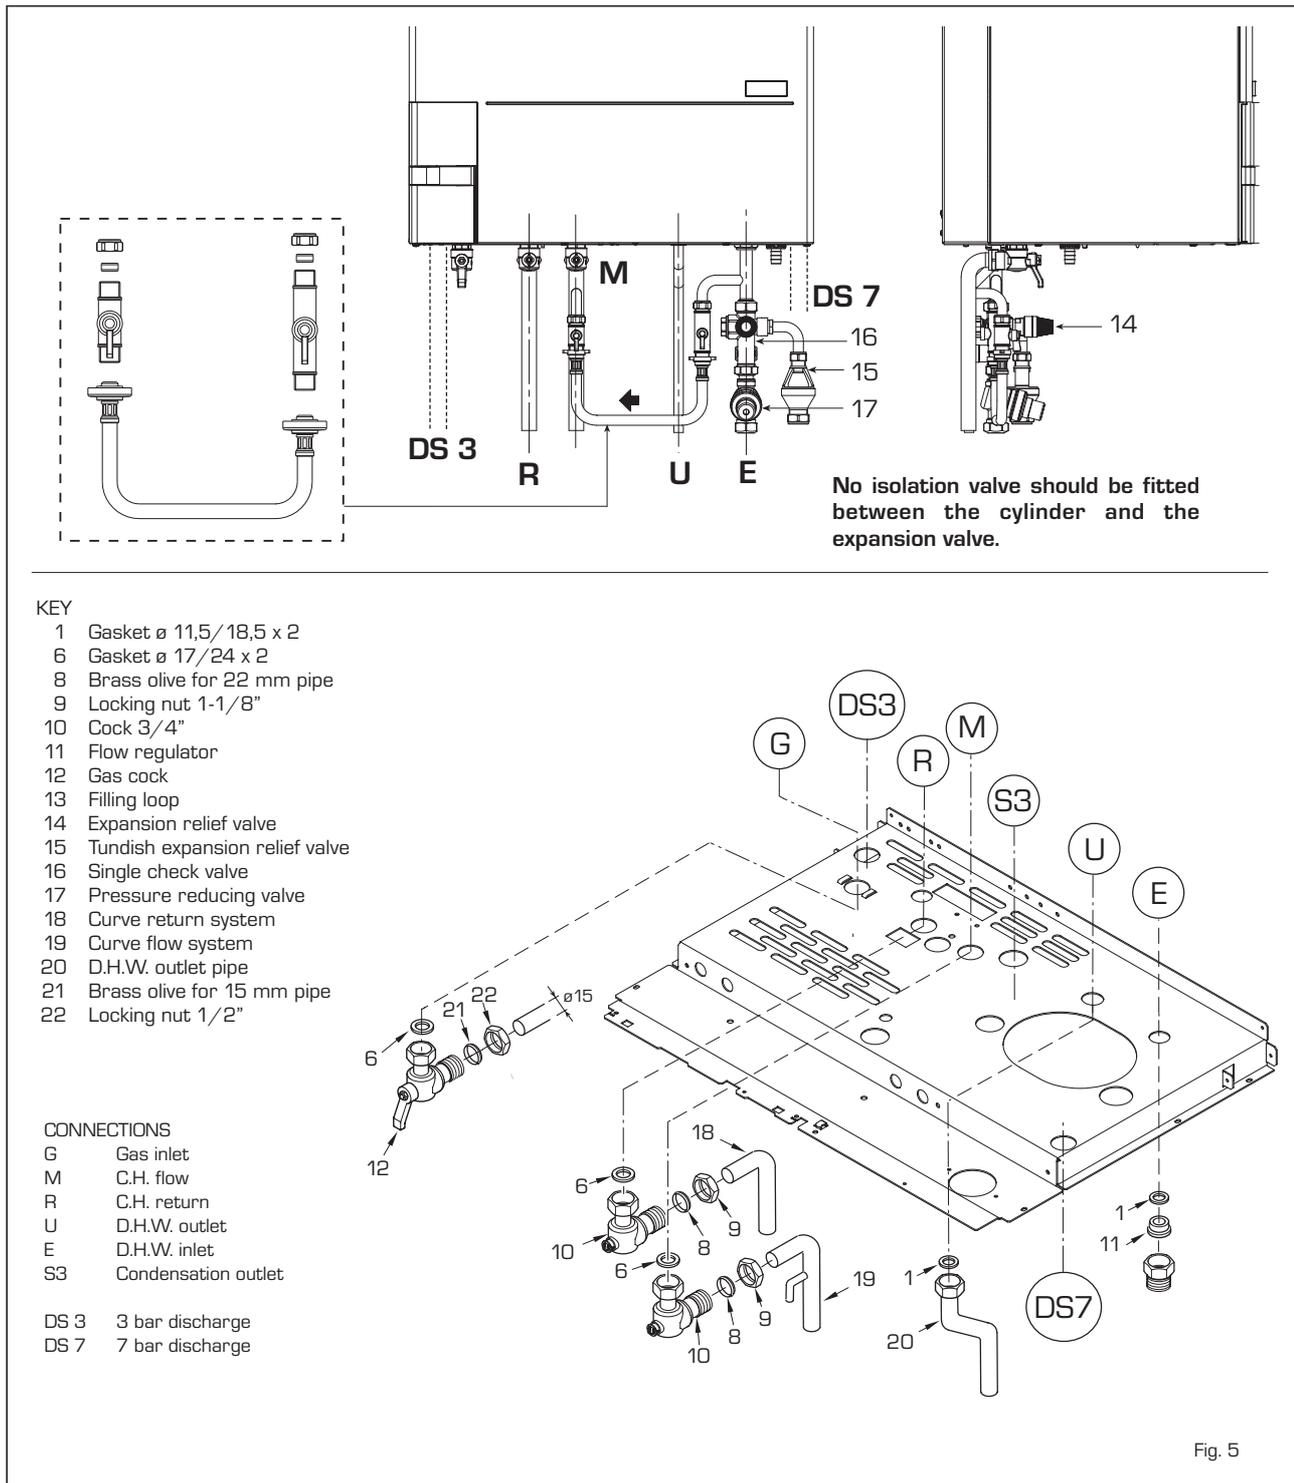
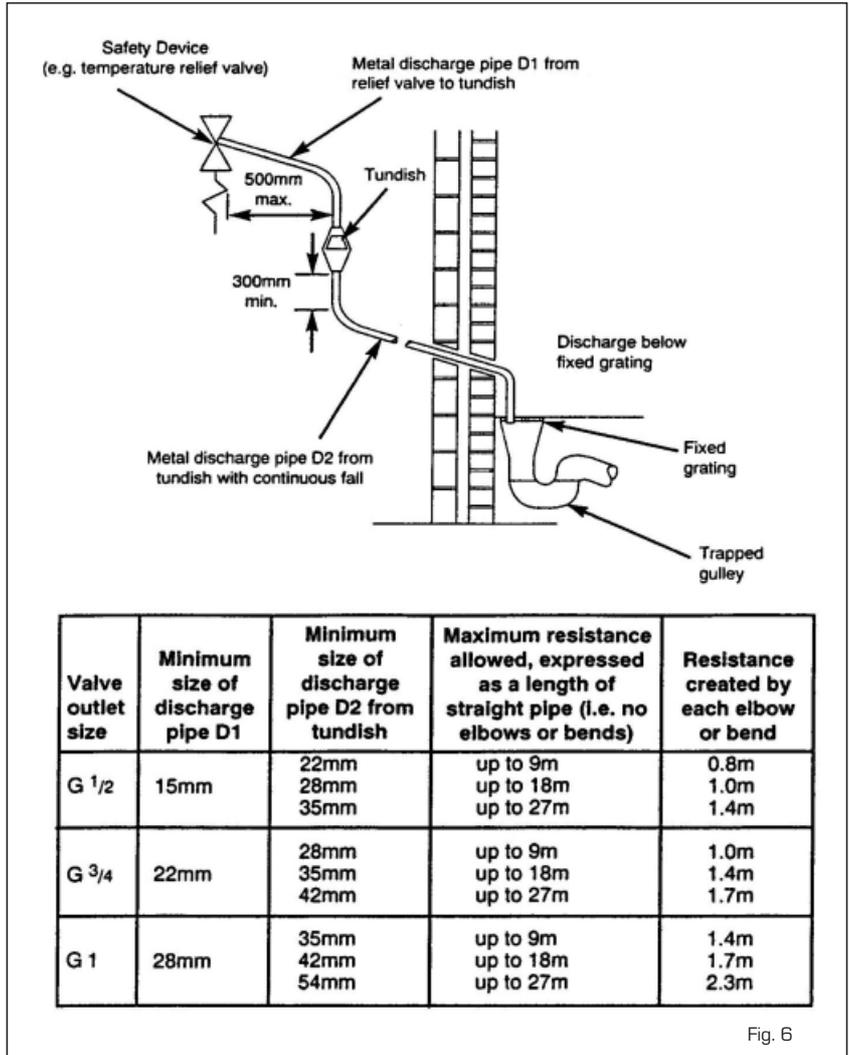

Fig. 5
Fig. 6
### 2.3 HOW TO FIT C.H. AND D.H.W. FITTINGS AND GAS COCK (fig. 5)
Fit the supplied; pressure reducing valve (17), check valve (16), and expansion relief valve assembly (14) with its associated tundish (15), ensure that on completion of the installation that the tundish is visible to the user, in the D.H.W. supply to the appliance, the flow from this assembly should be connected to the cold water inlet (E) via the flow regulator housing supplied. Ensure flow regulator (11) and gasket (1) supplied, are fitted in the flow regulator housing. See fig. 5 and fig. 6 for installation details. It is important that no isolating valve is fitted between the expansion relief valve and the inlet to the D.H.W. tank. Any additional D.H.W. drain down tap fitted should be positioned as low as possible to ensure that at least 80% of the D.H.W. tank's capacity can be drained. If installed in a Hard Water area, then a suitable device should be fitted to treat the mains supply to the appliance (Contact your Water Distribution Company for advice on suitable devices). Fit the quarter bend (2) to the hot water outlet (U) using the gasket supplied (1).
- GAS CONNECTION (C)
- c) The appliance is equipped with an internal by-pass that operates with system heads (H) greater than 3 m. The maximum flow through the by-pass is about 300 l/h. If thermostatic radiator valves are to be installed, at least one radiator should be without a thermostatic valve (usually the bathroom radiator).
- d) A sealed system must only be filled by a competent person using the filling loop as shown in fig 5.
The position of any tundish must be visible to the occupants and any tundish, drain valve and discharge pipe and must be sited away from any electrical components. The 7 and 3 bar PRV's are called out with the number 15 and 22 on fig. 3. The connections to the expansion relief valve and temperature and pressure relief valve should not be used for any other purpose. See fig. 6 for example of the discharge pipe(s) for the temperature and pressure
See fig. 6 for example discharge pipe terminations.